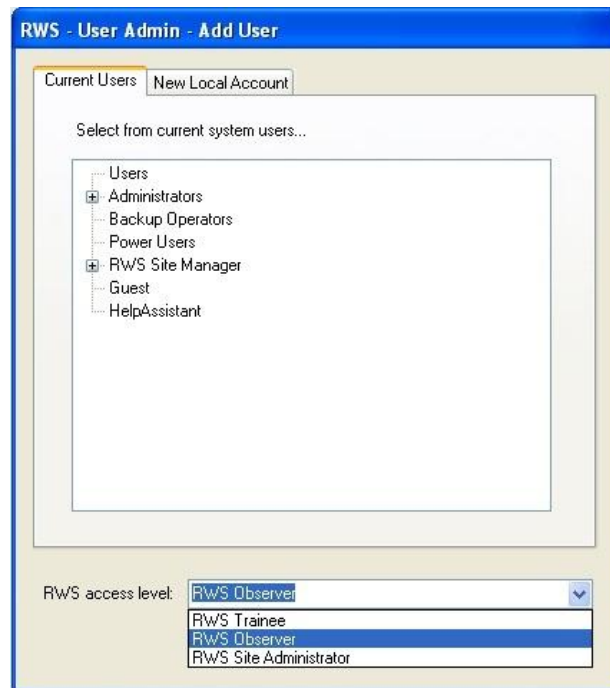

Figure A-24: Non-Active Directory. Add User window (Example Only)
- To add a user account, click the **Add** button in the User Administration Utility. The Add User window will appear (Figure A-24).